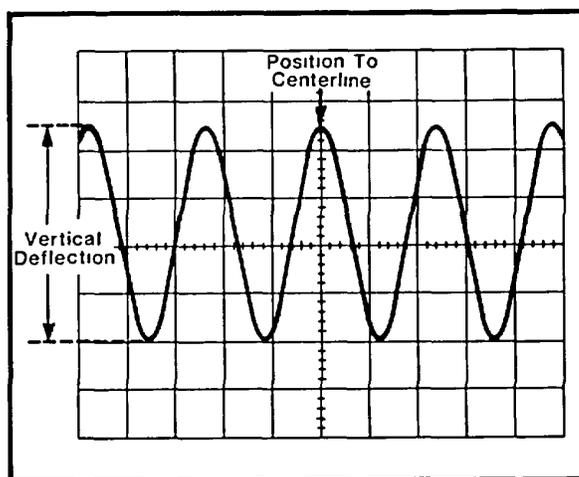

Fig. 1-4. Measuring the peak-to-peak voltage of a waveform.
6. Turn the AM-6785/U POSITION control so the lower portion of the waveform coincides with one of the graticule lines below the center horizontal line, and the top of the waveform is within the viewing area. With the time-base Position control, move the display so one of the upper peaks lies near the center vertical line (see Fig. 1-4).
EXAMPLE: Assume that the peak-to-peak vertical deflection is 4.5 divisions (see Fig. 1-4) using a 10X attenuator probe, and the VOLTS/DIV switch is set to 1 V.